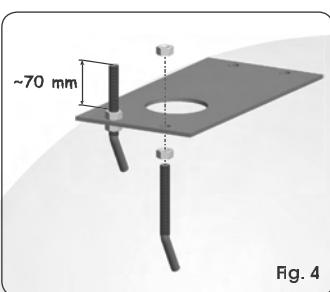

Fig. 4
- Assemble the foundation plate as in Fig. 4.